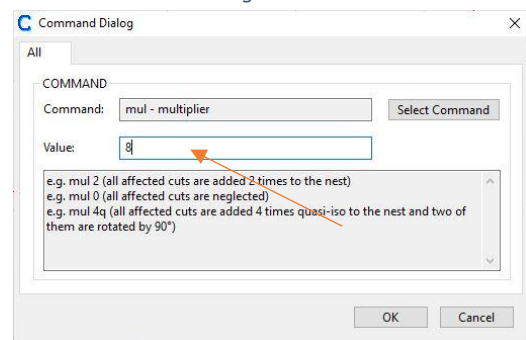

Figure 62
c. Back in the Command Dialog enter the multiplier value of “8” in the value entry (Figure 62).